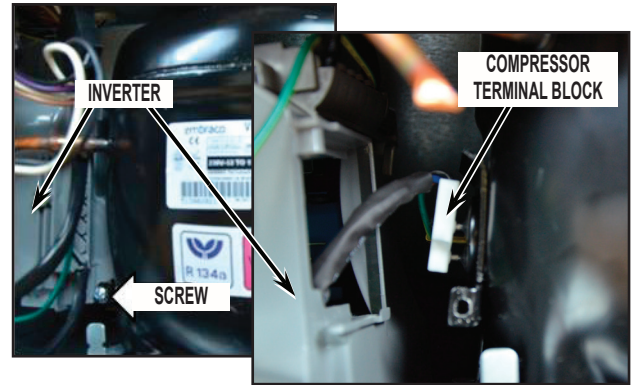

FIGURE 7
1. Remove the Phillips screw securing the inverter to the compressor terminal housing. See *Figure 7*.